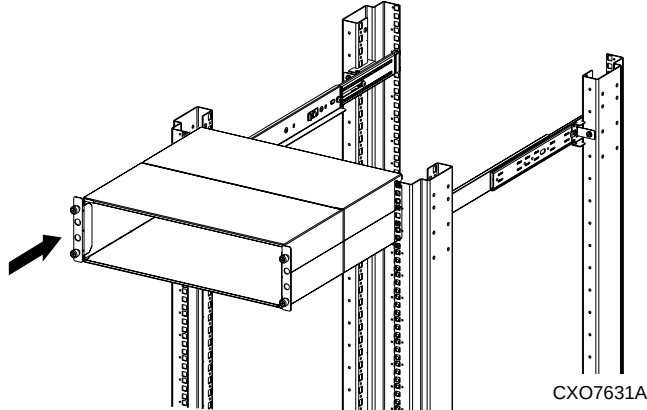

Figure 8: Enclosure installation
- Position the enclosure on the mounting brackets (see Figure 8) and slide it in until the enclosure flanges are flush against each rail-front.